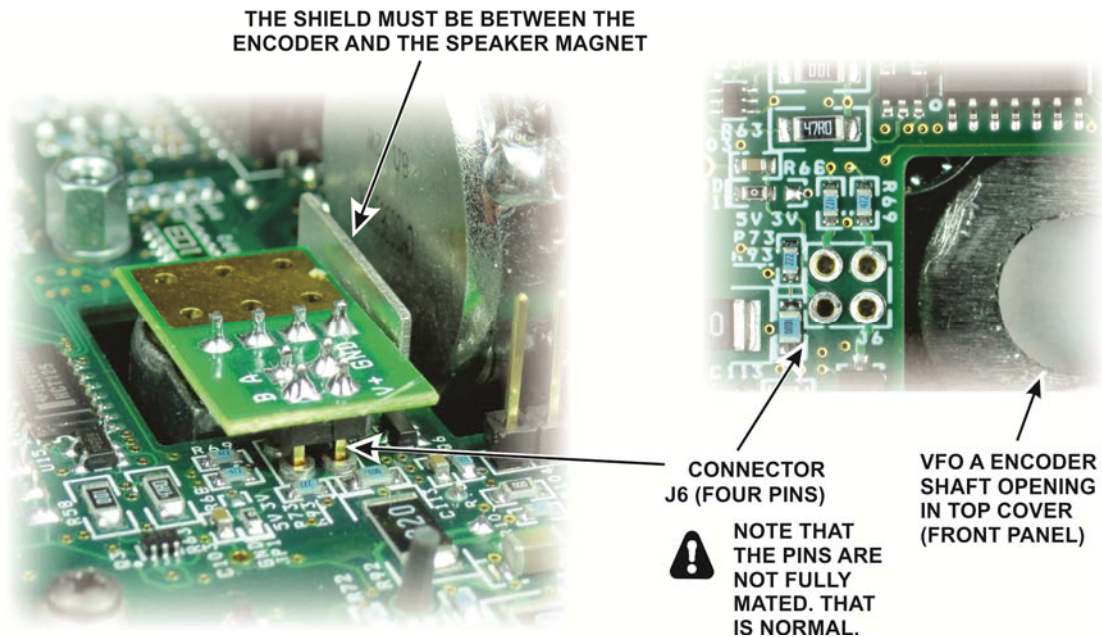

Figure 16. Installing the VFO A Encoder.
- ☐ Carefully position the encoder with its shaft through the opening in the front panel while mating the four pins with J6 (see Figure 16). Be certain the shield is between the speaker and the encoder as shown. If it is not, you it installed incorrectly in the previous step. Correct it before proceeding.